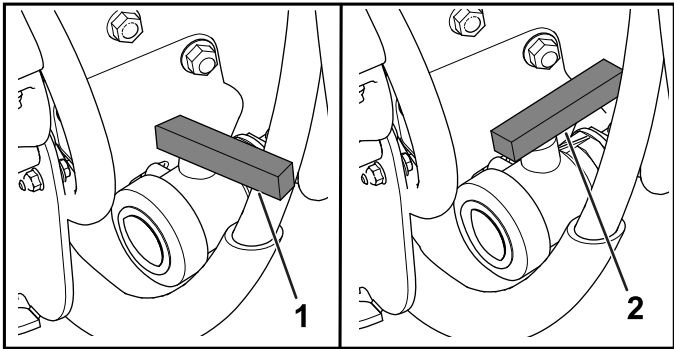

Figure 77
3. Open the valve to drain all unused material from the tank (Figure 77).
4. Close the drain valve (Figure 77).